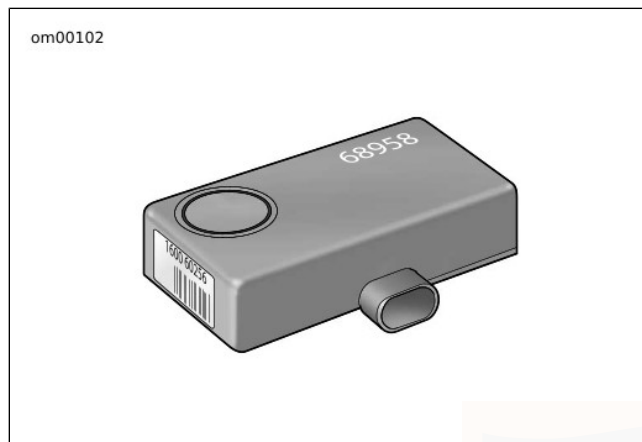

Figure 41. Siren
- See Figure 41. If the siren is armed and the internal siren battery is dead, shorted, disconnected, or has been charging for a period longer than 24 hours, the siren will respond with three chirps on arming instead of two.